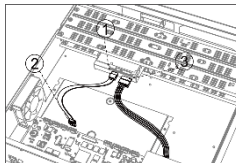

Figure 2-3 Connect Cable
Step 3 Connect the data cable and power cable. Refer to Figure 2-3.